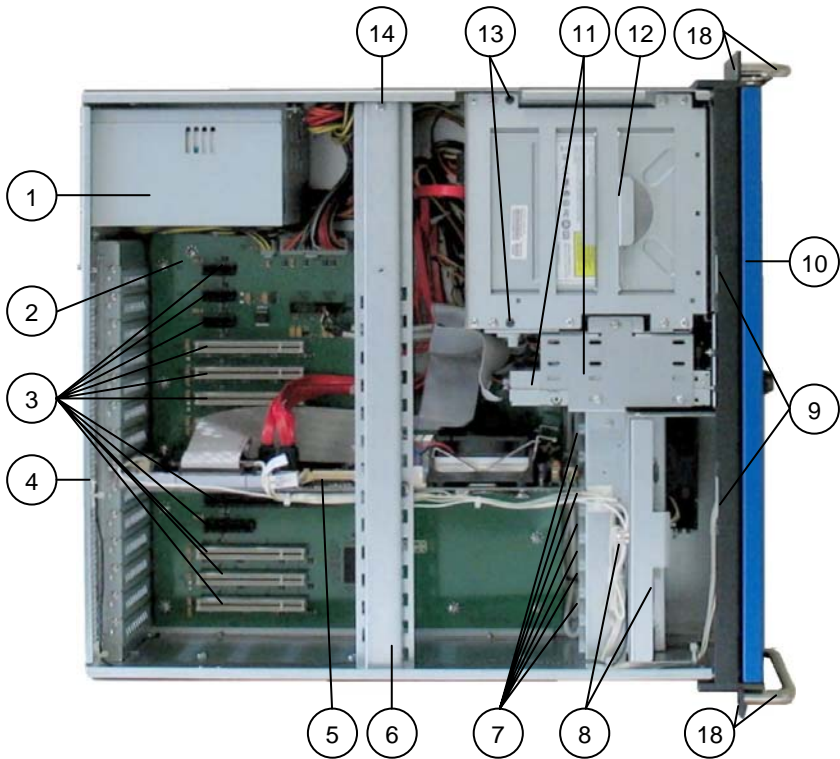

Fig. 7: KISS 4U-Platform, opened rackmount version (with SBC)
**Legend for figures: 7 and 7a:**